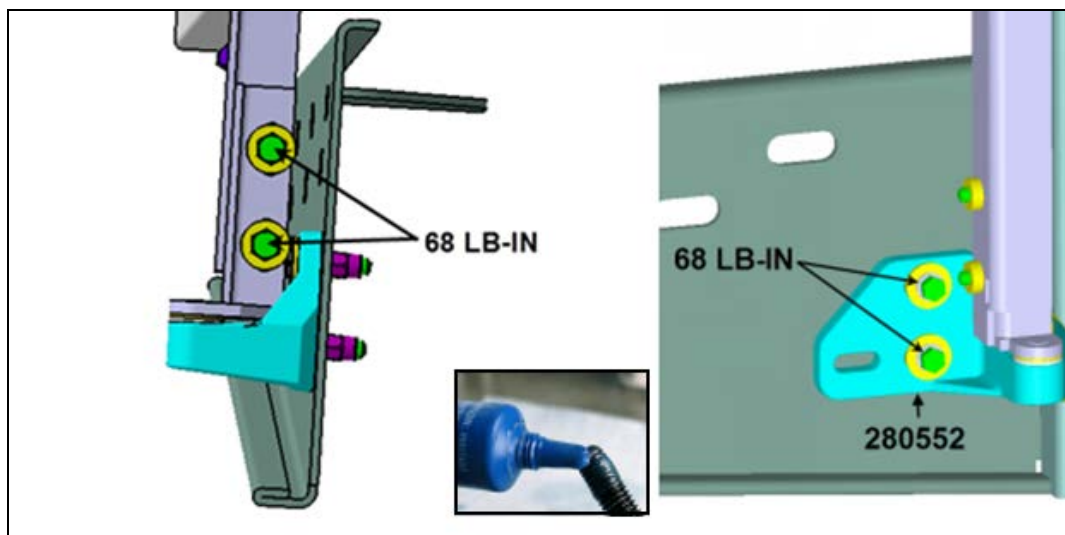

FIG.16 LOWER HINGE TIGHTENING TORQUE
- All four lower hinge bolts (vehicle *and* door frame) are torqued to **68 lb-in** (apply blue Loctite 242 or equivalent medium strength thread locker on all fastener threads (Fig.16)).